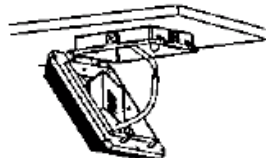

Figure 2-6
6. Connect the wires properly. If the fixture is equipped with sensor, adjust the sensor settings as you require. Take relevant waterproof measures after finished wiring ; Figure 2-6